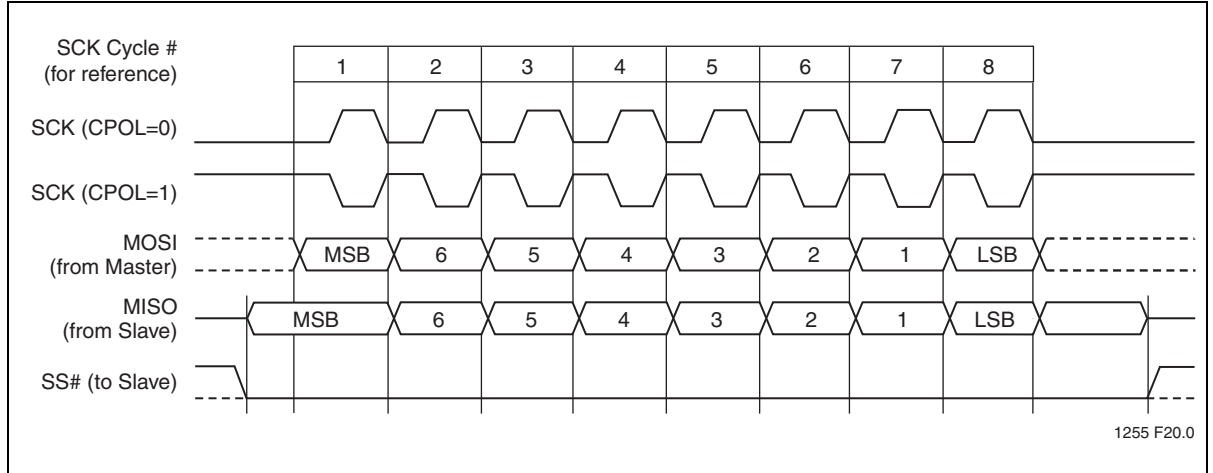

**Figure 20:** SPI Master-slave Interconnection
Figure 20 shows the correspondence between master and slave SPI devices. The SCK pin is the clock output and input for the master and slave modes, respectively. The SPI clock generator will start following a write to the master devices SPI data register. The written data is then shifted out of the MOSI pin on the master device into the MOSI pin of the slave device. Following a complete transmission of one byte of data, the SPI clock generator is stopped and the SPIF flag is set. An SPI interrupt request will be generated if the SPI Interrupt Enable bit (SPIE) and the Serial Port Interrupt Enable bit (ES) are both set.